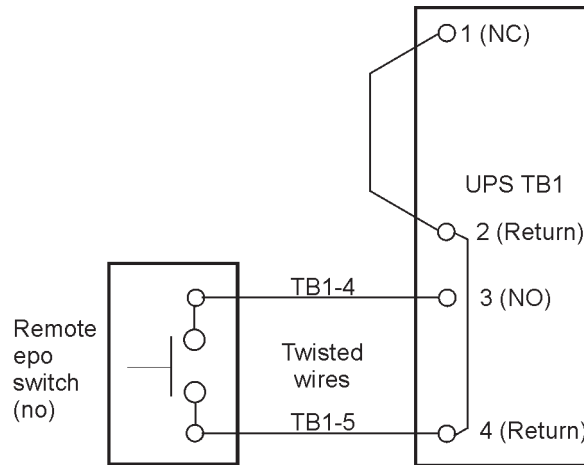

Figure 4-13. Normally-open remote EPO switch wiring
12. Route and connect the wiring as shown in Table 4-2 and Figure 4-13.